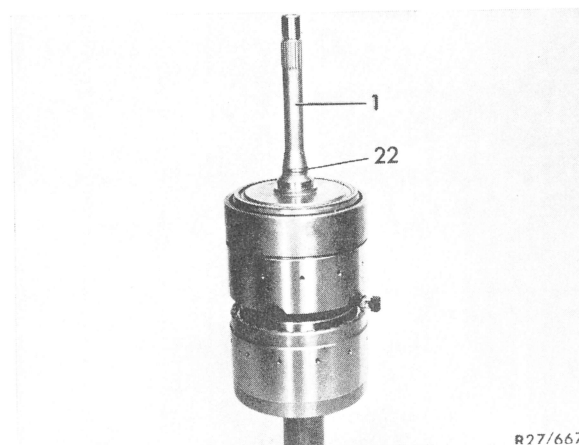

Fig. 2
- 3 Place gear assembly with input shaft in upward direction on assembly fixture 112 589 07 59 00 (Fig. 2).
- 4 Remove input shaft (1) with ring gear, as well as radial bearing (24) (Fig. 2 and 3).